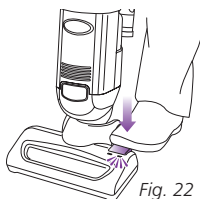

Fig. 22
- 2 Tap the foot pedal until the unit returns to standby mode. The carpet light (on the left hand side of the nozzle) should be blinking blue. (Fig. 22)